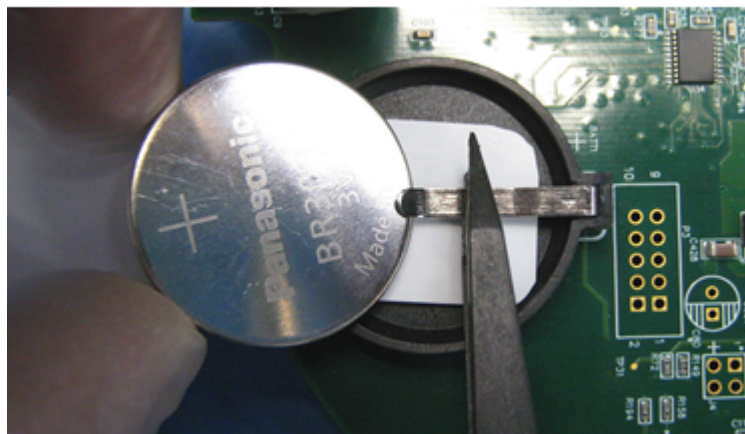

Figure 3-18: Inserting the Battery
13. Using a gloved hand and observing the correct battery polarity (plus (+) side up), gently slide the battery under the Positive (+) tab. Push the battery all the way into the battery holder. See Figure 3-18.